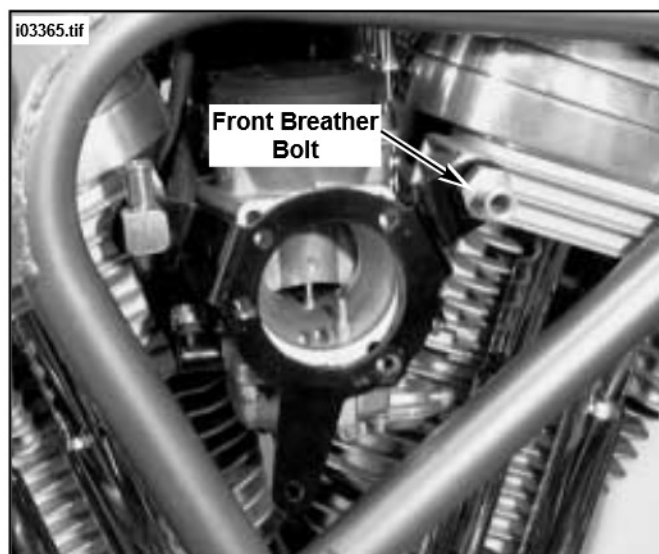

Figure 5. Front Breather Bolt
9. See Figure 5. Remove front breather bolt and save.